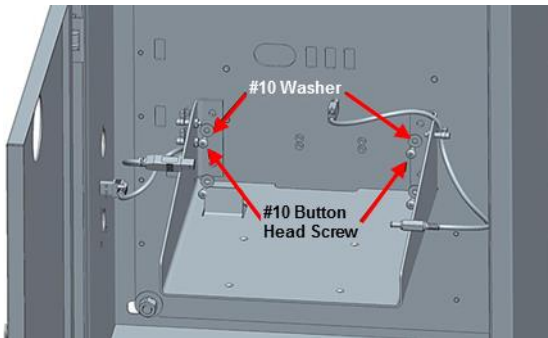

Figure 12: Install the DustTrak Shelf
3. Place the shelf against the backplane of the enclosure and align with threaded holes as shown in Figure 12.